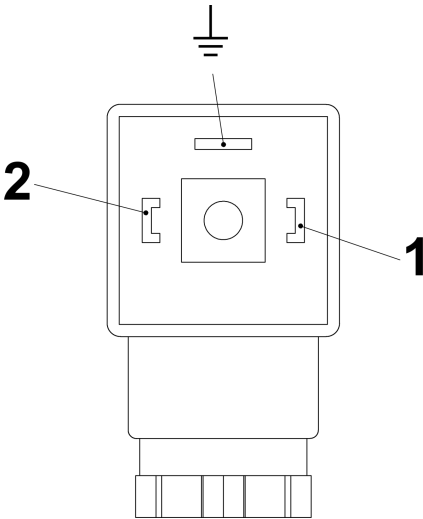
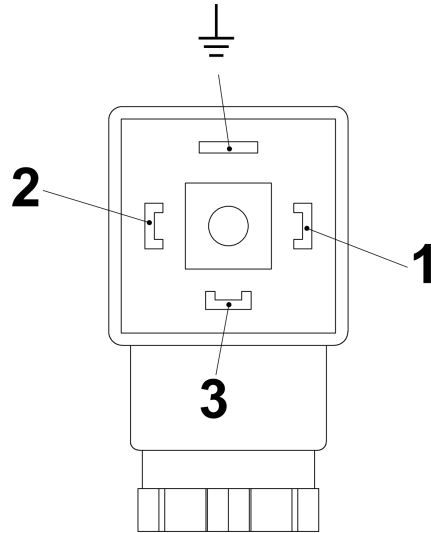

Fig. 26: Pin assignment, plug socket, Normally Open Contact (Form 30x70)
Fig. 27: Pin assignment, plug socket, Change-over contact (Form 30x70)
6. ➤ Make the connections as shown in the connecting diagram (Fig. 26 und Fig. 27)